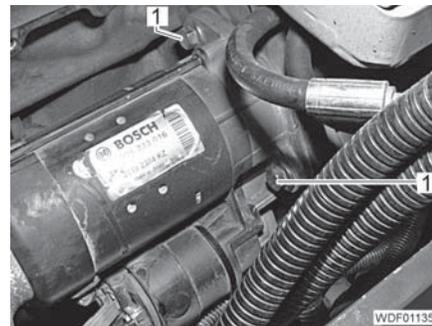

Fig. 419 Starter attachment
- Unscrew the 2 screws (Fig. 419,1).
- Screw in 2 screws (Fig. 419,1) with washers and tighten.